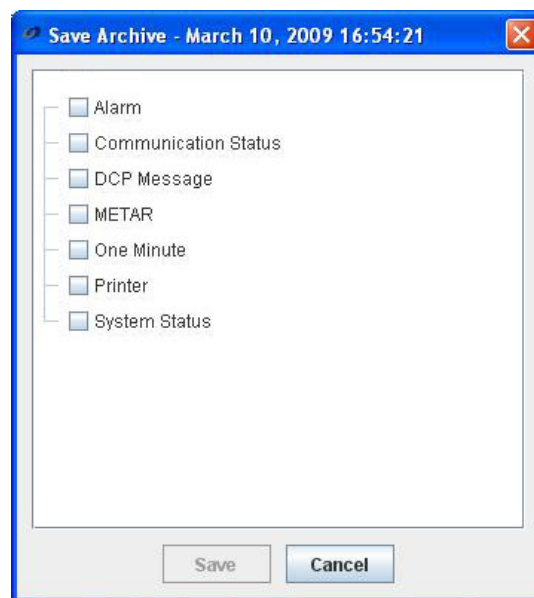

Figure 69. Save Archive Selection Screen
3. A screen will appear (Figure 69) that allows you to select the specific file types within the archive to save. To save all the files of a certain type (Alarm, for instance), click the box beside the folder; a checkmark will appear to show it is selected. To select specific files within the folder, click the open/close icon  beside the folder to view the contents of the folder. Click the desired files within the folder to select them for saving; a checkmark will be shown beside selected files.